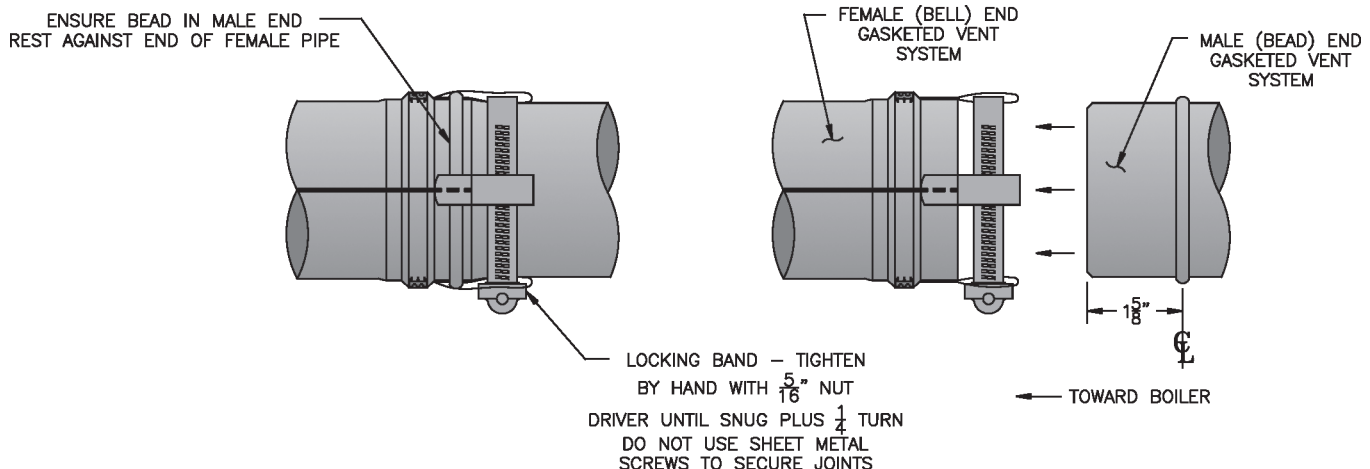

Figure 3: U.S. Boiler Gasketed Vent Joint Detail
1. Procedure for Joining U.S. Boiler Gasketed Vent Pipe and Fittings. See Figure 3.